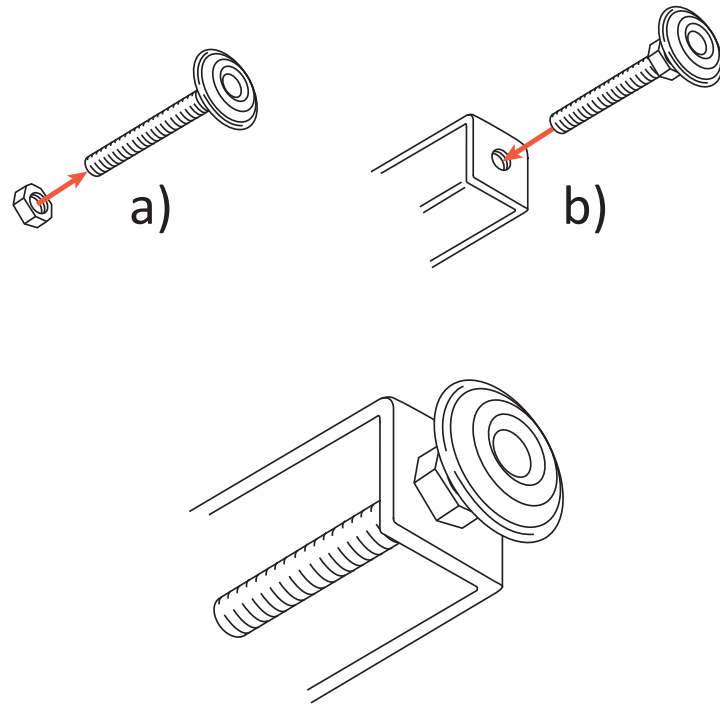

Figure A4. Installing a leg leveler and tightening nut.
**4)** Locate the game's four legs. Add a tightening nut and a leg leveler to each leg as shown in figure A4: a) Install a tightening nut onto each leveler. Thread it all the way down, next to the foot of the leveler. b) Thread the leveler/nut into each leg until the tightening nut is against its underside. With the cabinet set up on a perfectly level surface, this should provide a playfield pitch of approximately 6.5°, front to back.